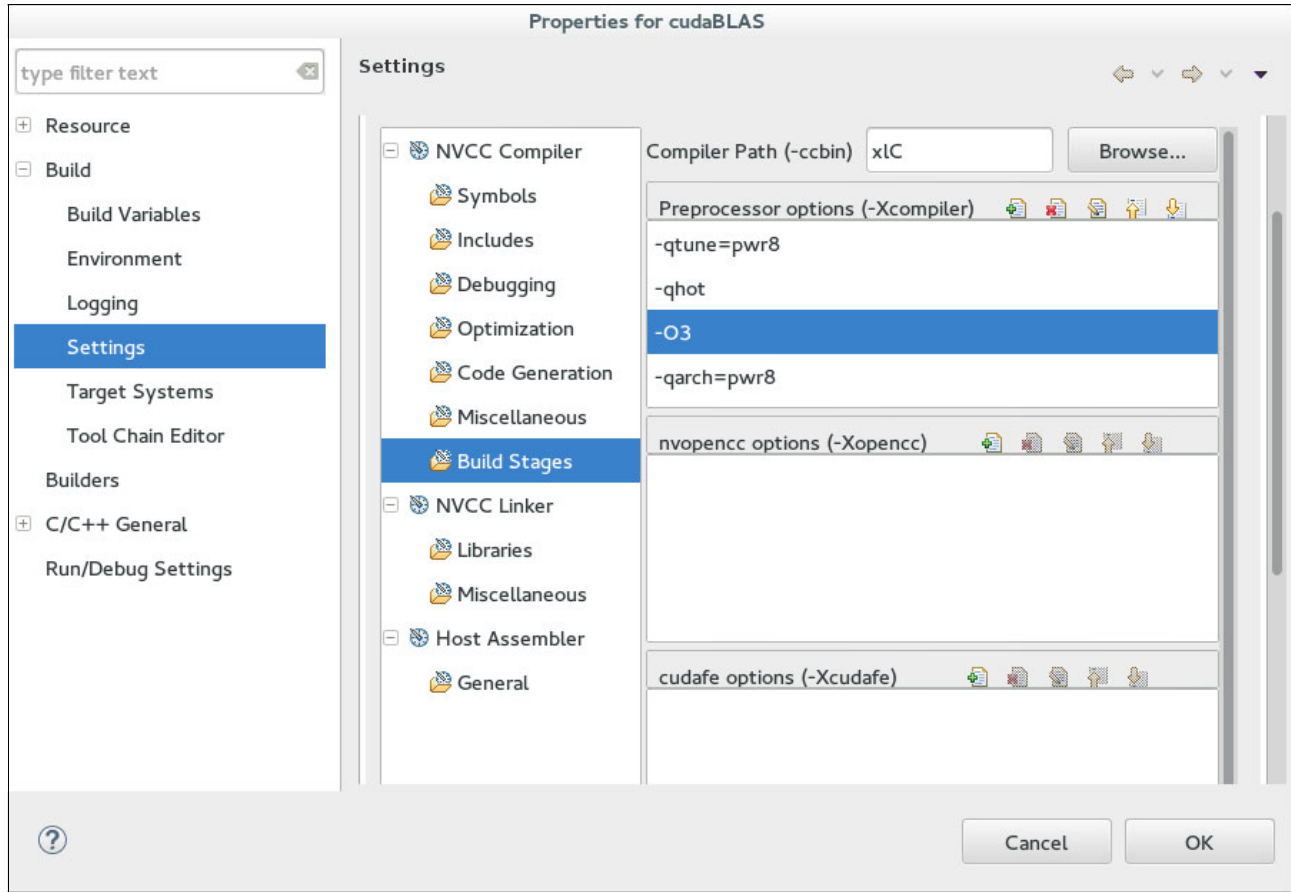

Figure 9-37 Nsight: New CUDA C/C++ project build settings
- As an optional step, set the host compiler that is evoked by `nvcc`. Right-click the project name and select **Properties**. Expand **Build**, and then choose **Settings**. Click the **Tool Settings** tab and select **Build Stages**. Enter the necessary information in the Compiler Path and Preprocessor options fields (see Figure 9-37). Change the content of the **Compiler Path** under the Miscellaneous section of the NVCC Linker window.